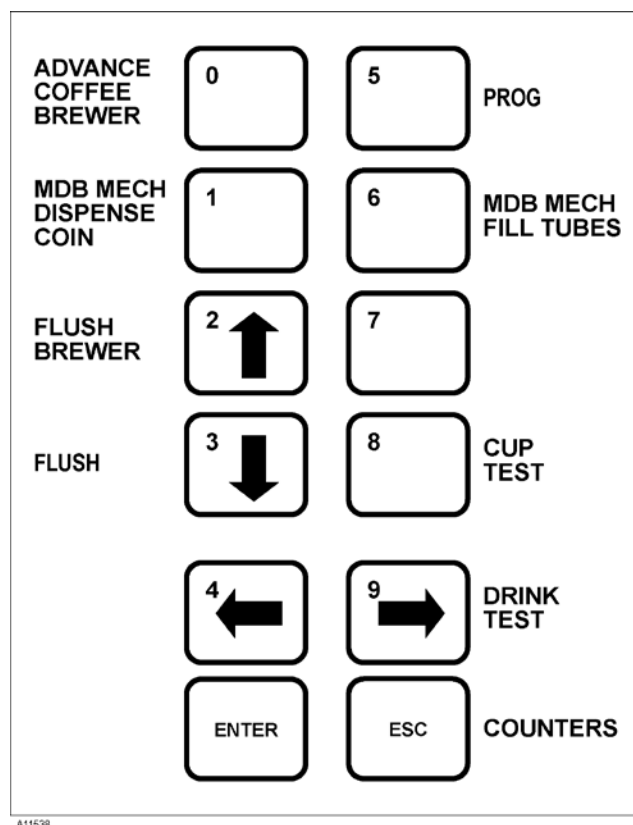

Figure 14d
- **Figure 14d** - The filter belt can now be removed as shown